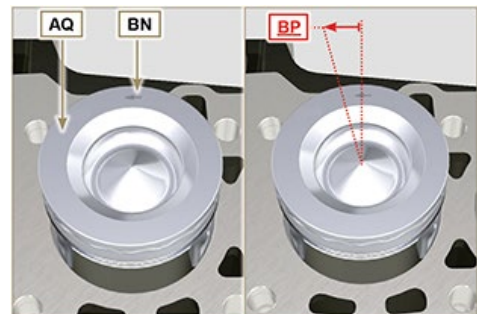

Fig 9.16
5. Rotate the piston **AQ** by 10° counter-clockwise with respect to its correct assembly position (**Fig. 9.16** - height **BP**).